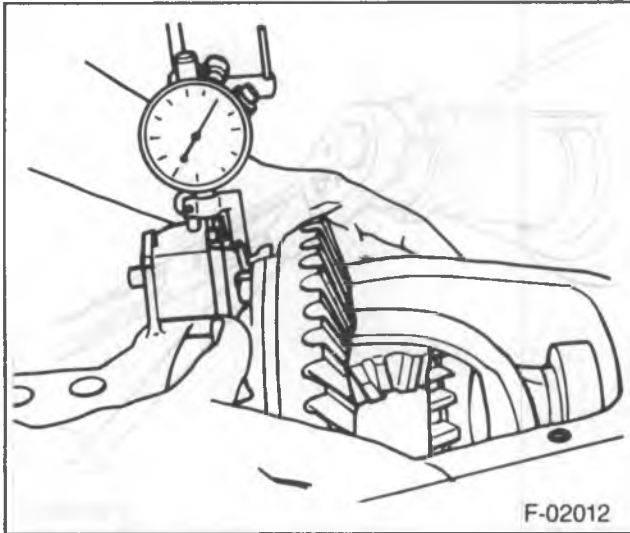

Figure 36—Measuring Differential Movement
1. Assemble the differential case (22) with master bearings installed to the axle housing. The pinion must be installed.
2. Mount a dial indicator having a minimum travel of 0.200-inch with a magnetic base on the ring gear bolt side of the housing (figure 36).